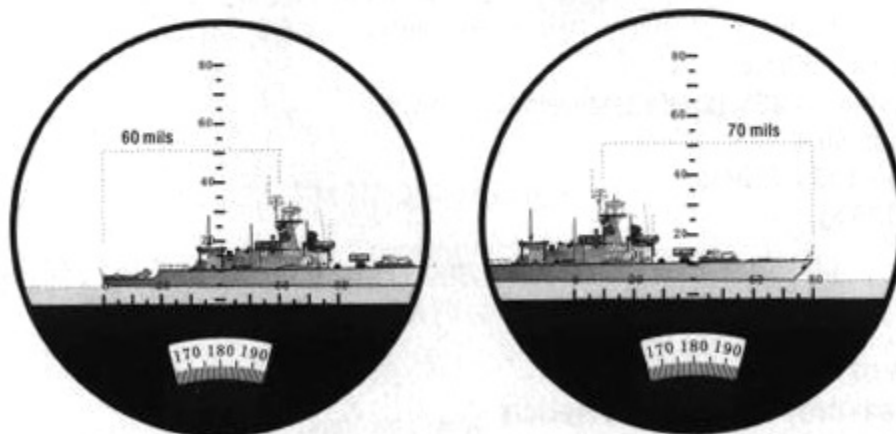

Fig. 8
B. When the azimuth of "Object" measured is larger than the reticle range (80 mils), measure the azimuth by fitting vertically "Object" with reticle and summing the measurements of reticles. For an example shown in Fig. 8, the azimuth of "Cruiser" as "Object" is measured to be 130 mils (60 mils + 70 mils).